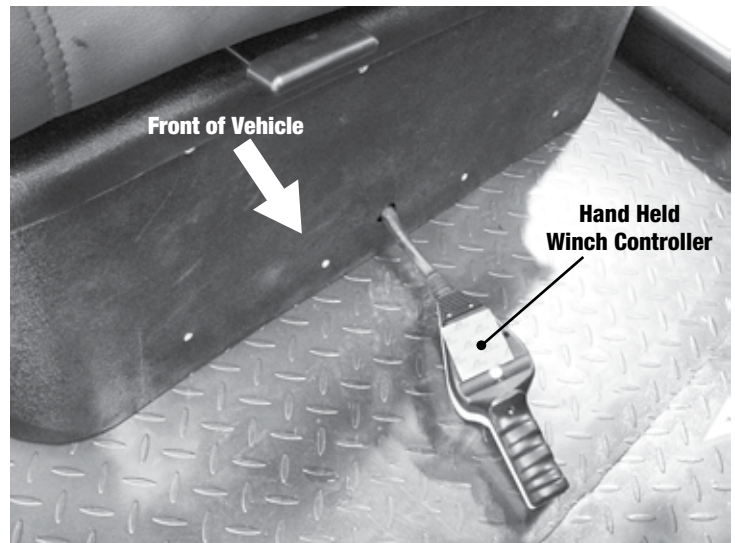

Fig. 6
- Straighten the bent leg on the cotter pin on the winch hook and remove the cotter pin and clevis pin. Attach the winch hook to the wire rope loop as shown in figure 6. Replace the cotter pin and bend the cotter pin leg back to its original position.
- Use the hook strap to pull out the wire rope by moving the Clutch Control Knob to the "Released" position by pulling it out and away from the winch then rotating it 90 degrees (see figure 6).